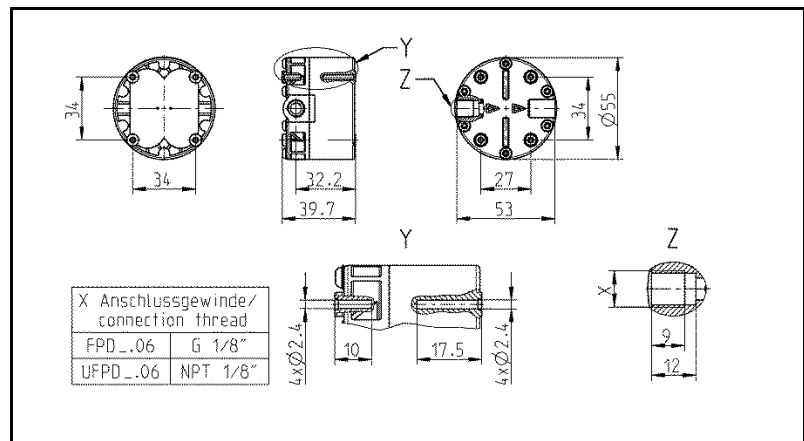

Fig. 1: Mounting dimensions FPD_.06
- ➔ Mounting dimensions (see Fig. 1 and 2)